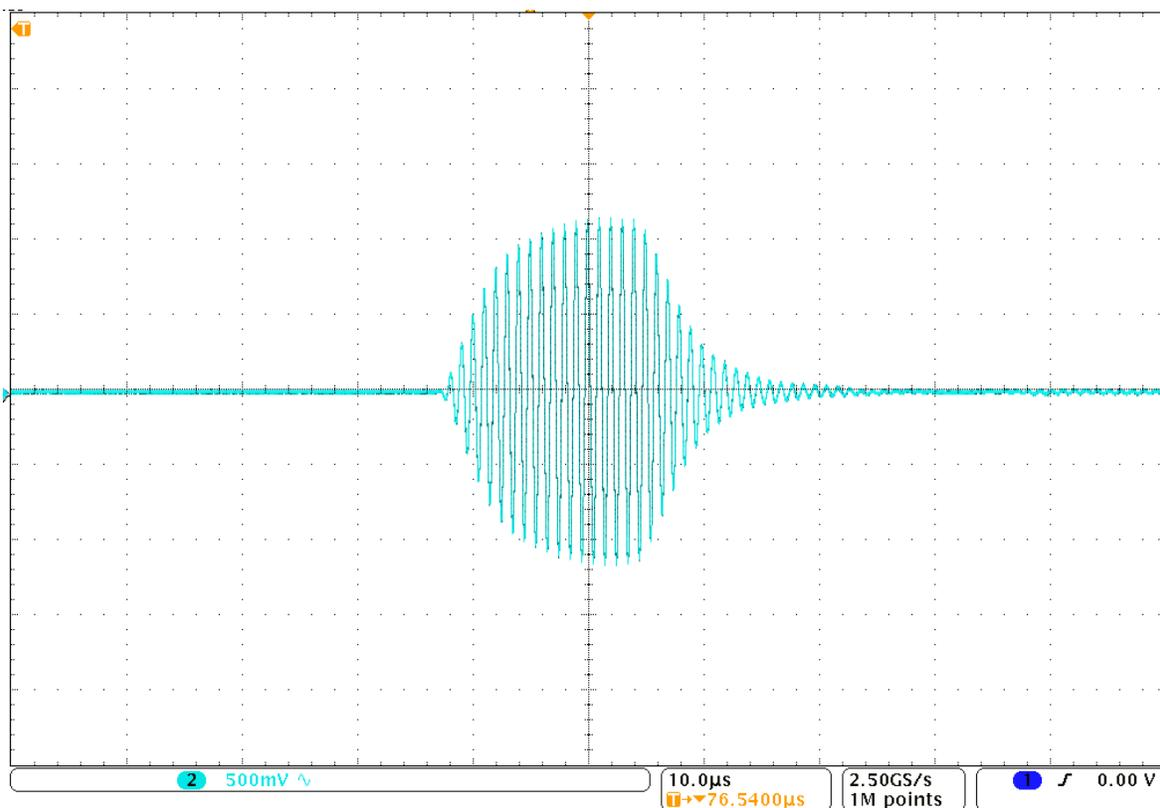

**Figure 5. External DC Supply Connections**
4. Power the board by connecting an external 3.3-V DC supply to the DVCC header and DGND header, as Figure 5 shows. The LED3 (power) on the board turns ON to indicate that the board was powered successfully.